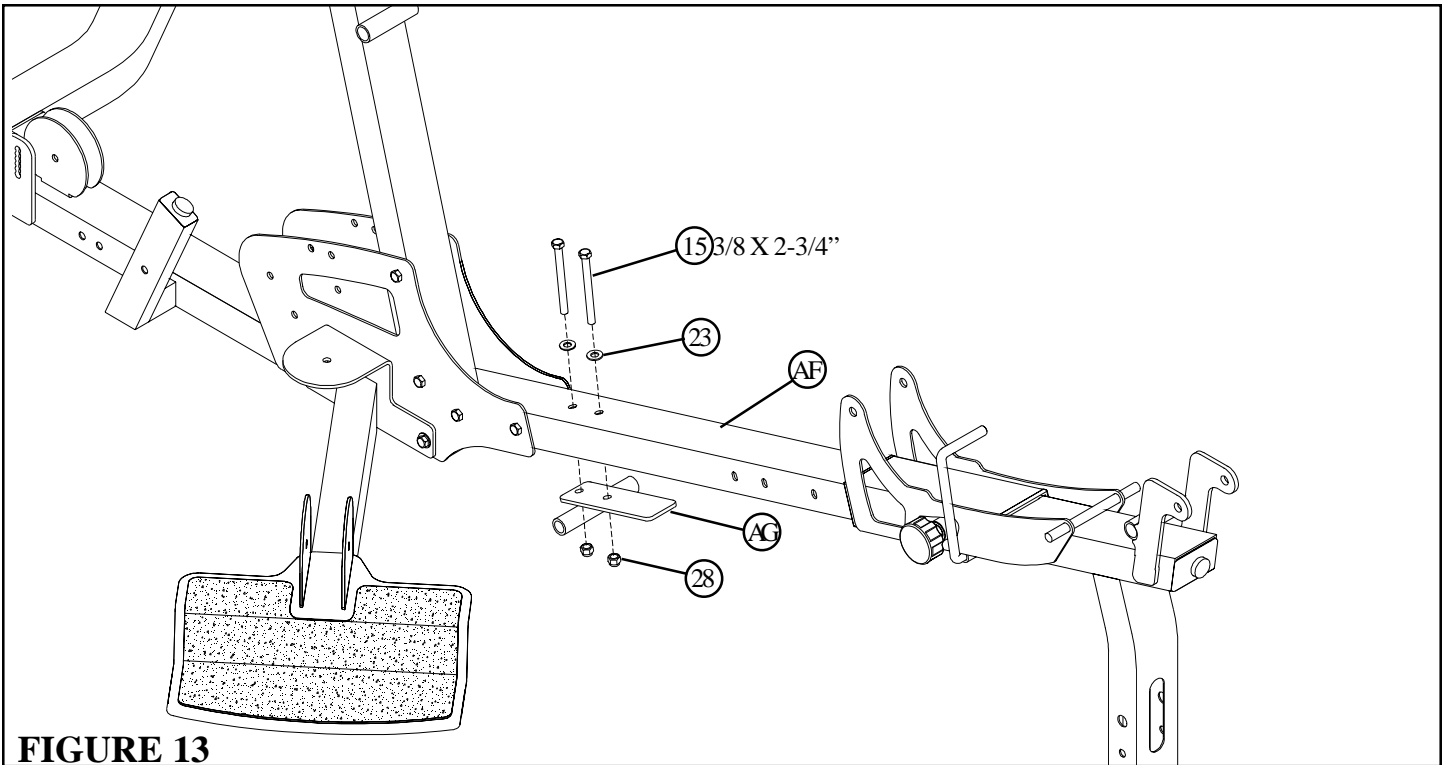

FIGURE 13
- **SECURELY** assemble the PIVOT ASSEMBLY (AG) to the SEAT FRAME (AF) using two 3/8 X 2-3/4" BOLTS (15), two 3/8" WASHERS (23) and two 3/8" LOCK NUTS (28) as shown in FIGURE 13.